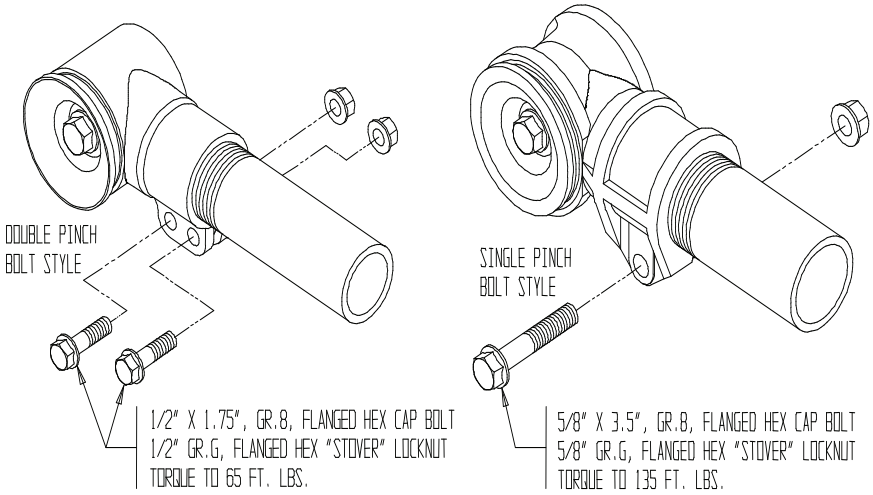

FIGURE 11
To accommodate all suspension capacities, Chalmers uses two sizes of torque rods and tubes. See Table 5 and Fig. 11.
STEP 2 – Working on the axle to be adjusted and on **ONLY ONE** torque rod at a time, loosen the lower torque rod eye pinch bolts (both ends). See Fig. 11.
STEP 4 – Tighten and torque the eye pinch bolts. If the bolts are corroded or damaged, replace with **NEW** fasteners. See Fig. 11.